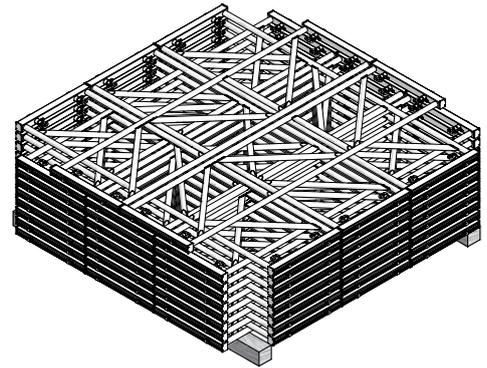

Fig. 35.4 Bundle of frames 220 MEP
- 50 frames 220 MEP: 595 kg (Fig. 35.4)